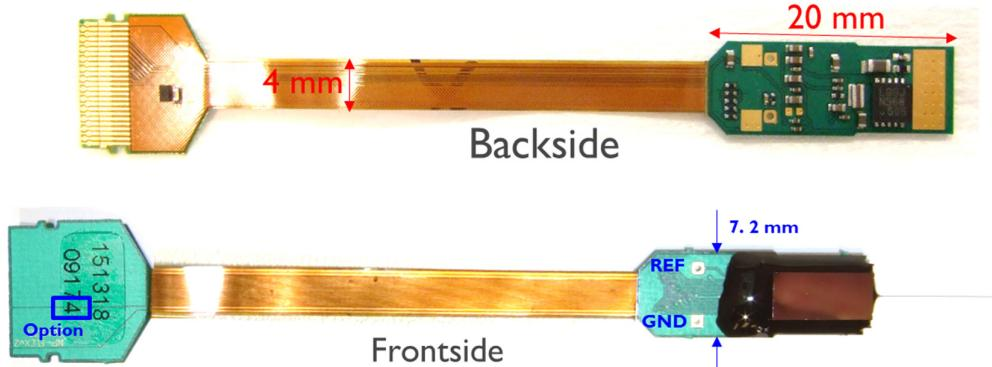

Figure 2: Flex PCB with assembled components: top: backside, bottom: frontside (with probe).
One of the components is an EEPROM, which contains the probe ID code and gain and ADC calibration parameters. The 11-digit probe ID code is printed on the frontside. The last digit indicates the probe Option (1-4), except when the probe ID starts with 172627, then the last digit is 1 or 2 but the probe is always Option 3. The EEPROM contains the same code except of the first (1) and last digit (1, 2, 3 or 4). However, in case the probe ID starts with 172627, The EEPROM contains the same code except of the first two digits (17). Additional info on how to call the probe ID via the API can be found in the document 2017-04-27 *Neuropix Phase IIIA system user API V1.13*. The full assembly including probe weighs ~0.3 g. The flex PCB dimensions are indicated in Figure 2. The .STEP file can be found in the SVN repository in the same folder as this manual (Neuropix SVN customer\Documentation).